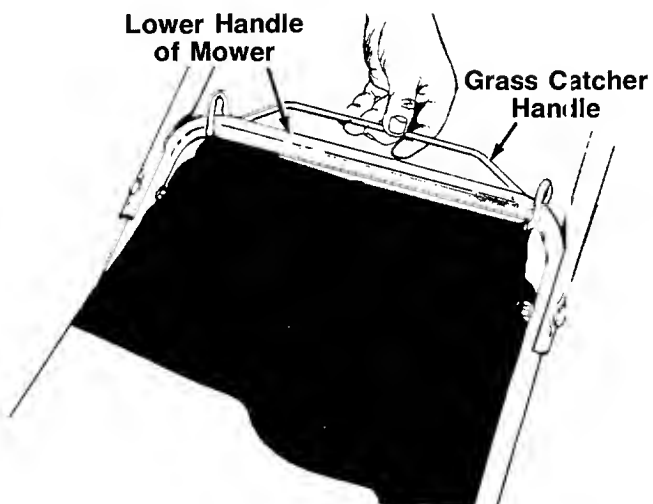

FIGURE 13.
3. Hook the handle on the rear of the grass catcher over the lower handle of the mower. See figure 13.